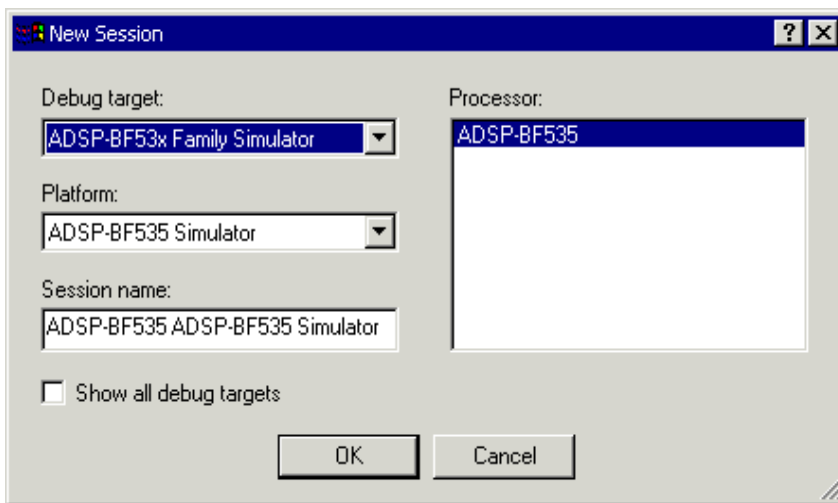

Figure 2-6. New Session Dialog Box
If you are running VisualDSP++ for the first time, the **New Session** dialog box (Figure 2-6 on page 2-11) opens to enable you to set up a session.
1. In the **Session List** dialog box, click **New Session** to open the **New Session** dialog box, shown in Figure 2-6.